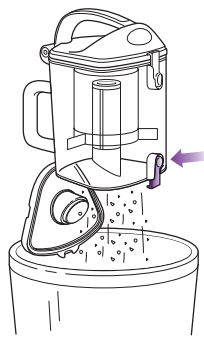

Fig. 19
- 2 Hold the dust cup over a trash receptacle and press the bottom door release button. **(Fig. 19)** Tap gently to empty contents. Press the door shut again until it clicks.